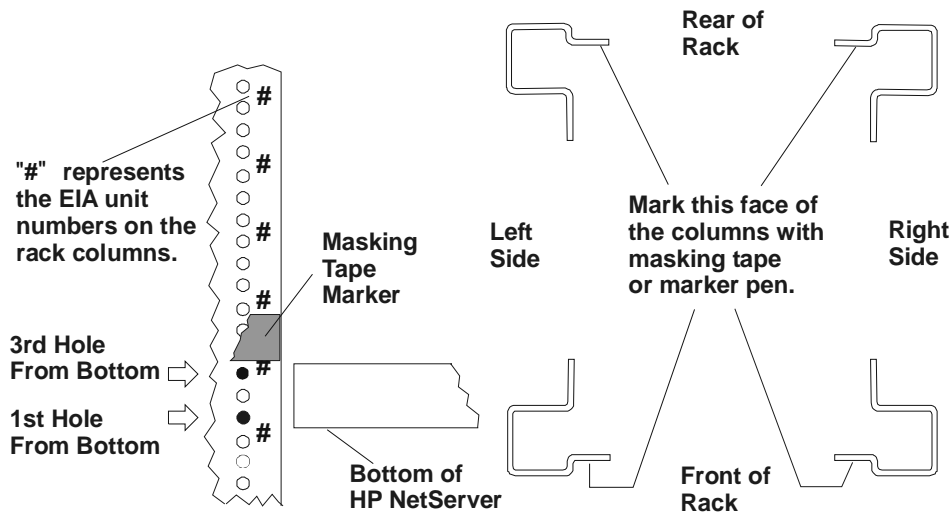

Figure 8-3. Location Marks on the Rack's Columns
2. Use the masking tape (or marking pen) to mark above the 3rd hole up on both front columns, as shown in Figure 8-3.
3. Mark the inside face of the left-rear and right-rear rack columns as shown in Figure 8-3.
4. Match the outer-rail pins to the column holes (1st & 3rd) marked on the front and rear columns. See Figure 8-3.